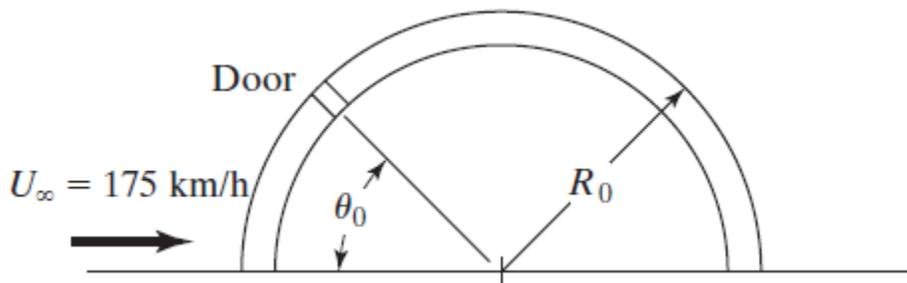

Fig. 8.
15. Consider the flow around the quonset hut shown in Fig. 8 to be represented by superimposing a uniform flow and a doublet. Assume steady, incompressible, potential flow. The ground plane is represented by the plane of symmetry and the hut by the upper half of the cylinder. The free-stream velocity is 175 km/h; the radius R_0 of the hut is 6 m. The door is not well sealed, and the static pressure inside the hut is equal to that on the outer surface of the hut, where the door is located.